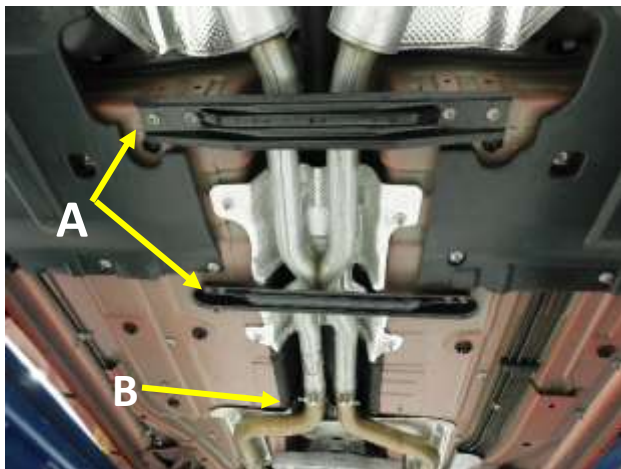

Figure 1
1. Apply penetrating oil to the (x2) 15mm nuts on the clamps at the factory X-pipe (B) and loosen the clamps. Apply penetrating oil liberally to the slip joint. **Fig. 1**
2. Remove the (x2) cross braces under the exhaust (A). **Fig. 1**